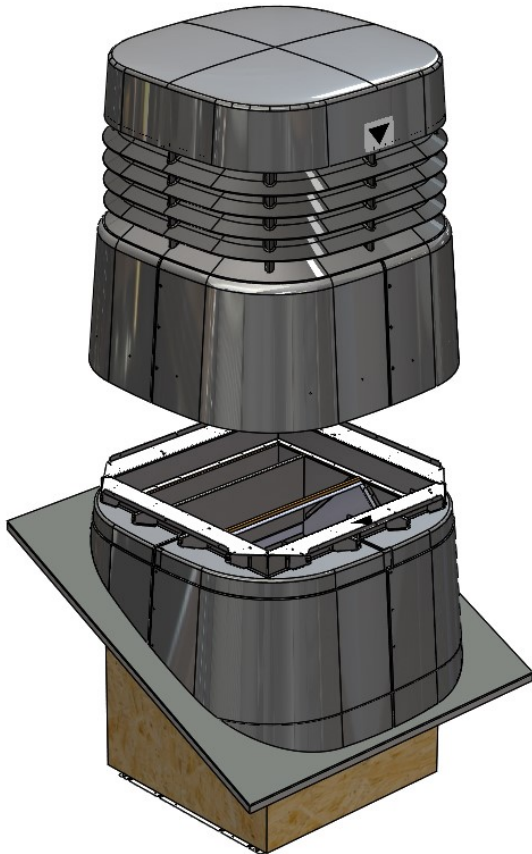

Figure 44 – Cowl orientation.
2. Lower the cowl terminal in to place - *see figure 44*.